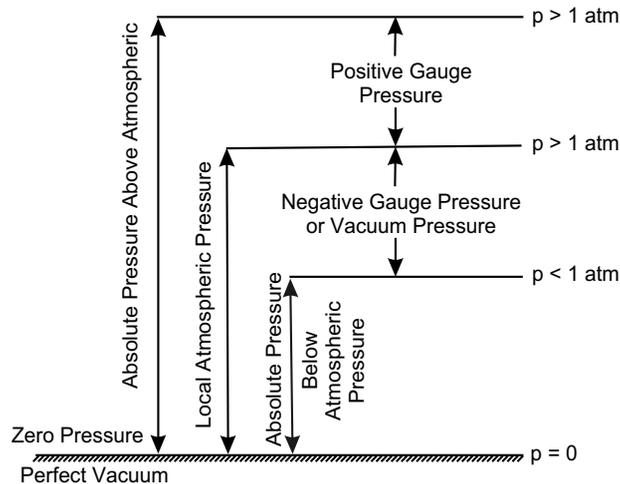

Fig. 1.11
- (c) **Vacuum pressure:** It is the pressure below the atmospheric pressure. Sometimes it is called as negative gauge pressure. The relationship between the absolute pressure, gauge pressure and vacuum pressure are shown in figure 1.11.